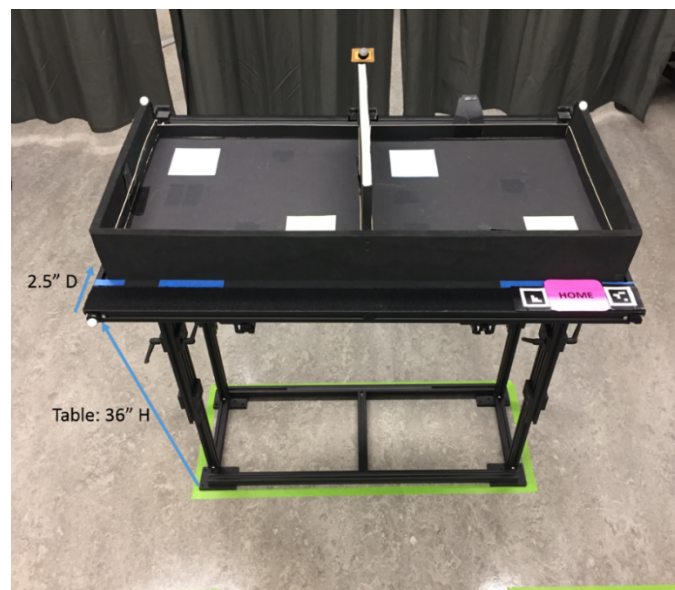

Figure 1. Cup Transfer Task Set Up
- **Box design:** Interior dimensions 30 in. wide, 14 in. deep, 3 in. high box edges, central divider 6 in. high (Figure 1, Appendix A).
- **Table:** Standard counter height (36 inches); box placed 2.5 inches back from the near edge. HOME hand position is on the front edge of the table, with its center 12.5 inches to the right from the midline of the table. “Neutral” eye position marker at back edge of divider, 16.5 inches from the front edge of the table (Figure 1).